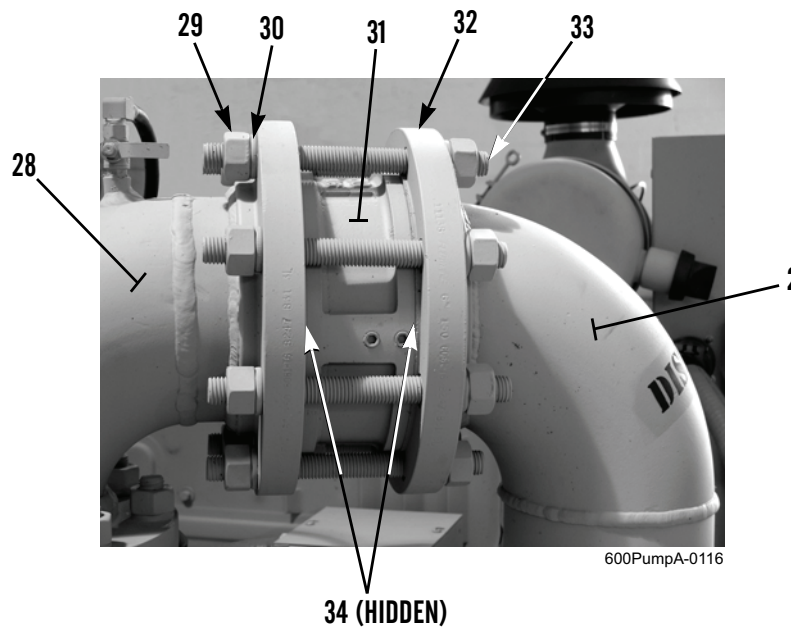

Figure 7. Discharge Elbow, Check Valve, and Discharge Manifold.
14. Attach suitable lifting equipment to discharge manifold (Figure 7, Item 2) and support discharge manifold.
15. Remove nut (Figure 7, Item 29) and lockwasher (Figure 7, Item 30) from each end of eight threaded studs (Figure 7, Item 33) that secure flange (Figure 7, Item 32) of discharge manifold (Figure 7, Item 2) and check valve (Figure 7, Item 31) to 90-degree discharge elbow (Figure 7, Item 28). Discard lockwashers.
16. While supporting discharge manifold (Figure 7, Item 2), remove all threaded studs (Figure 7, Item 33) EXCEPT for those located at 5 o'clock and 7 o'clock positions.
17. Remove two gaskets (Figure 7, Item 34) and check valve (Figure 7, Item 31). Discard gaskets.
18. Remove discharge manifold (Figure 7, Item 2) away from 90-degree discharge elbow (Figure 7, Item 28) and remove two remaining threaded studs (Figure 7, Item 33).
19. Lift discharge manifold (Figure 7, Item 2) and remove from trailer.